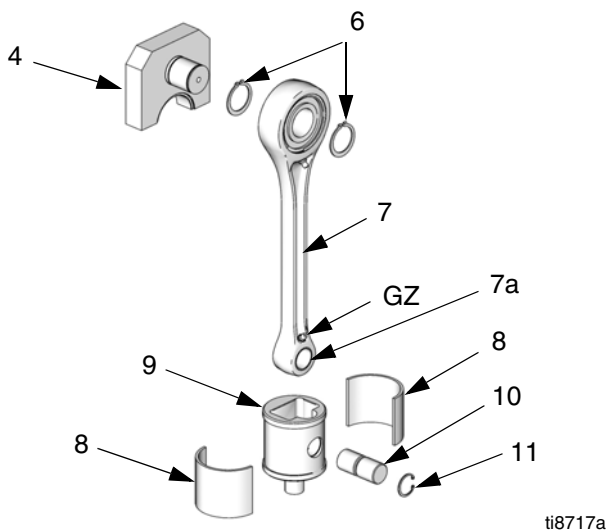

FIG. 18. Drive Linkage Assembly
1. Jog the motor to bring the pump on the side being repaired to the bottom of its stroke. This provides access to the coupling nut (14).
5. See FIG. 18. Orient the new connecting rod (7) and slider piston (9) as shown. Assemble the crank arm (4), retaining rings (6), pin (10), and retaining ring (11).